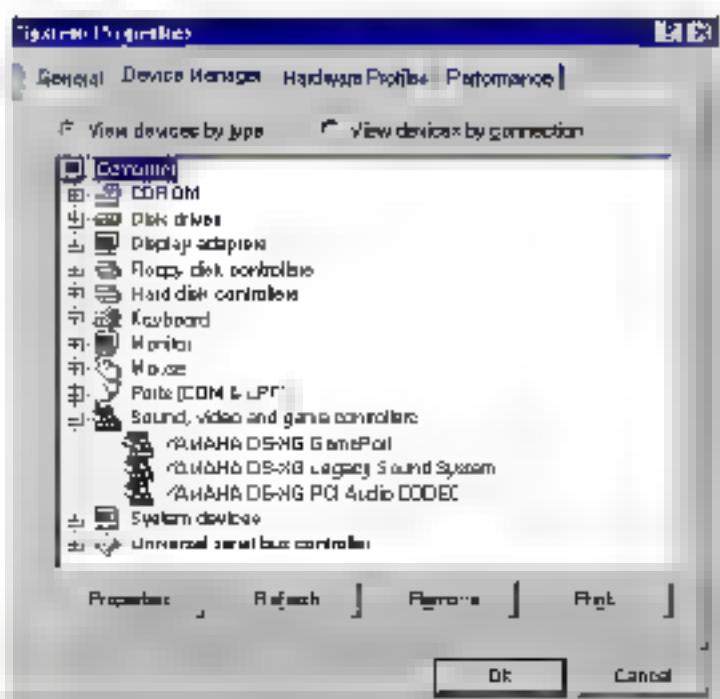

Figure 2 The system properties for Device Manager
- 4) The System Properties window now appears. Click on the Device Manager tab as shown in Figure 2 below